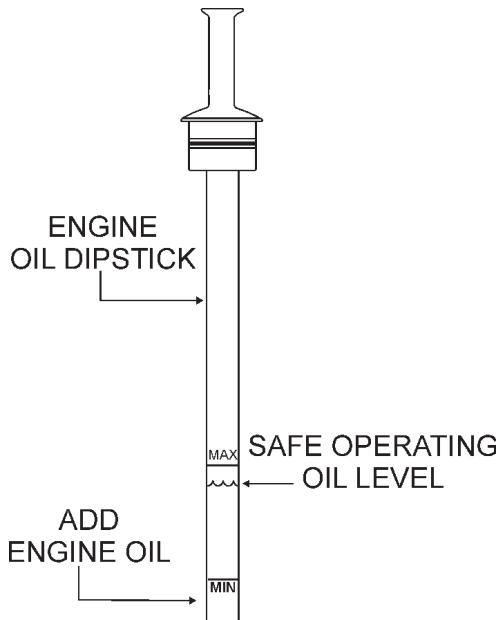

Figure 27. Dipstick (Pump Engine)
2. Pull the engine oil dipstick (Figure 27) from its holder.
3. Verify that oil level (Figure 27) is maintained between the two notches on the dipstick.